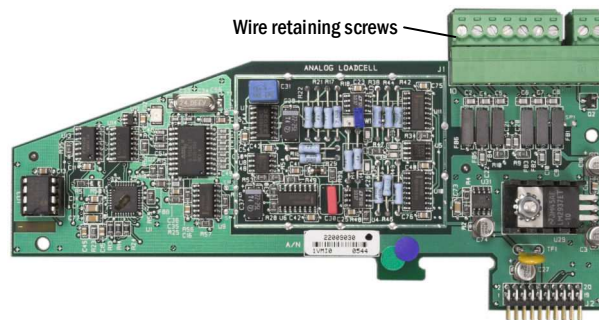
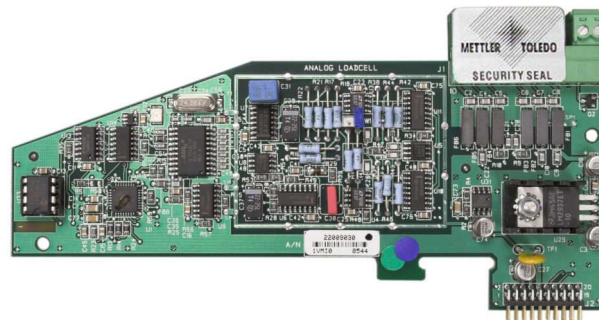

Figure 2-74: Unprotected Option Board Connection
Figure 2-75: Security Seal Installed
3. To protect the load cell interconnecting cable/s (attached to option boards), a security seal must be placed over the connectors to ensure that they are not removed or disconnected. The seal also prevents access to the wire retaining screws indicated in Figure 2-74. Figure 2-75 shows a seal in place.